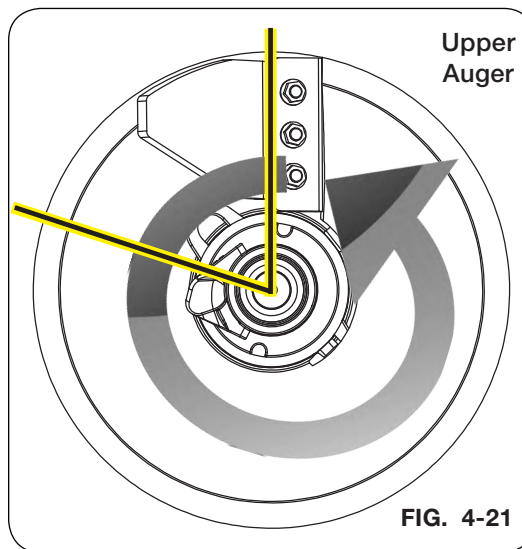

FIG. 4-21
Time the drive pin (as in Fig. 4-21) with the finished edge of the flighting at 12:00. Position the drive pin at 9:30.
**NOTE:** Looking up at the upper flighting (Fig. 4-21) the auger rotation will be counter clockwise.